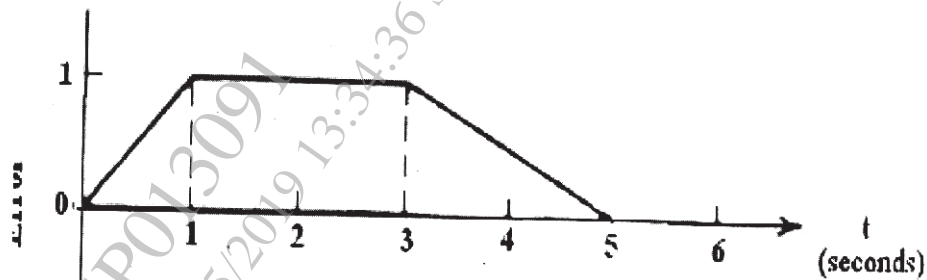

**Figure 3**
- Q8) a)** For the system in Figure 3, assume  $m$ =mass=2 kg,  $k$ =stiffness=4 N/m and  $b$ =damping = 0.3 Ns/m. Also,  $F$ =Force input in N and  $x$  = displacement output in m. [10]